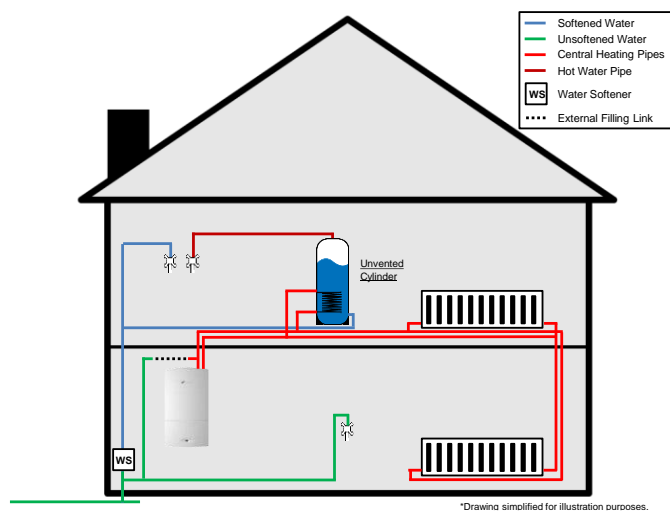

Fig 2. Greenstar system boiler with unvented hot water storage cylinder – Untreated water line to system fill point
- ▶ A separate untreated supply which is connected prior to the water softener. (Fig 2.)